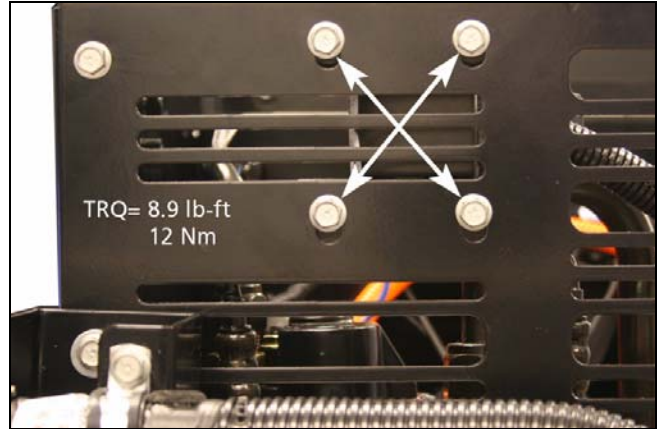

Figure 42. Bypass valve - mounting hex-bolts
5. Remove four hex-bolts securing the valve assembly to the rear panel. See Fig. 42.